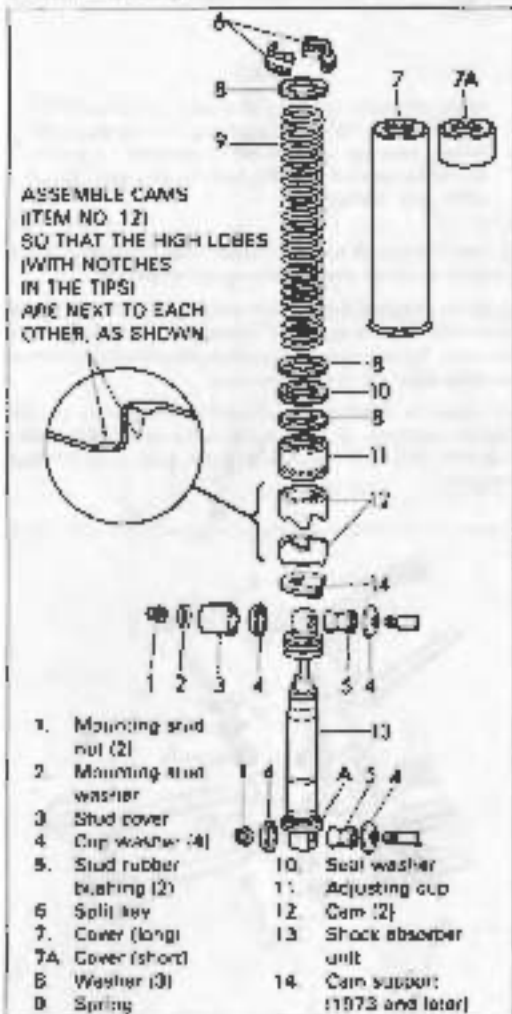
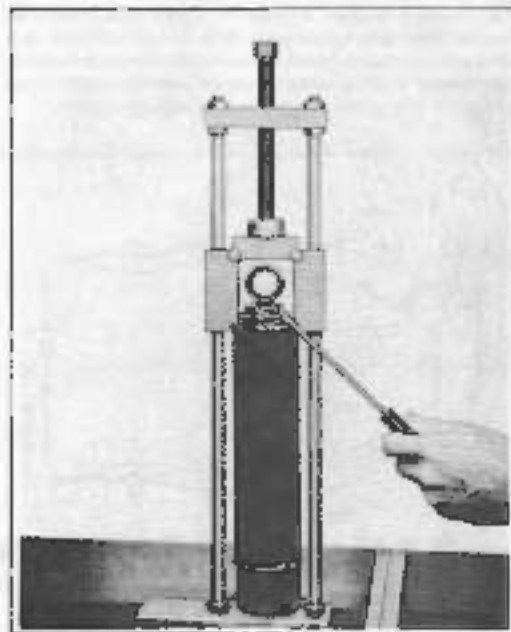

Figure 2-54. Rear Shock Absorber - Exploded View
Figure 2-55. Disassembling Shock Absorber
(Figure 2-54)
Remove top and bottom mounting stud nut (1), mounting stud washer (2), upper stud cover (3) and cup washer (4). Slip shock absorber assembly off upper and lower studs. Push rubber bushings (5) from shock absorber mounting eyes. Place shock absorber in Rear Shock Absorber Tool, Part No. B7010-S2A with split key (6) up. Compress absorber spring enough to remove each half of split key (6) from flange on shock eye as shown in Figure 2-55. Release spring compression and remove absorber assembly from tool. Remaining items can be removed in order shown in Figure 2-54.
Apply a thin coat of grease to all surfaces of both cams. Note that cams (12) are identical and be sure to position cam keys correctly as shown in Figure 2-54 inset. Place assembly in compressor tool and compress spring enough to install key halves (6). Release spring compression. Keys will lock into place in inside diameter of covers 7 or 7A.
Install each shock absorber on motorcycle with slot in cam support (A, Figure 2-54) facing toward wheel.